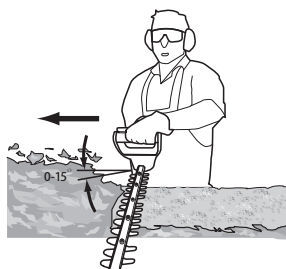

Fig. 10
8. After cutting the sides proceed to the top. Try to keep the cutting device angled at approximately 15° to the cutting surface (Fig. 10).